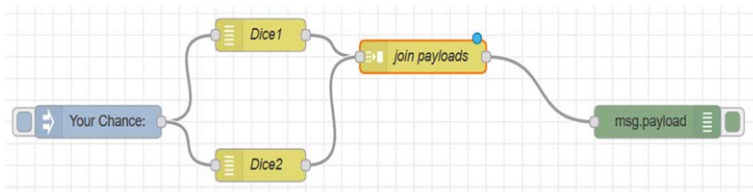

Figure 4.27 Join the five nodes together
- Join the five nodes as shown in Figure 4.27, and click **Deploy**